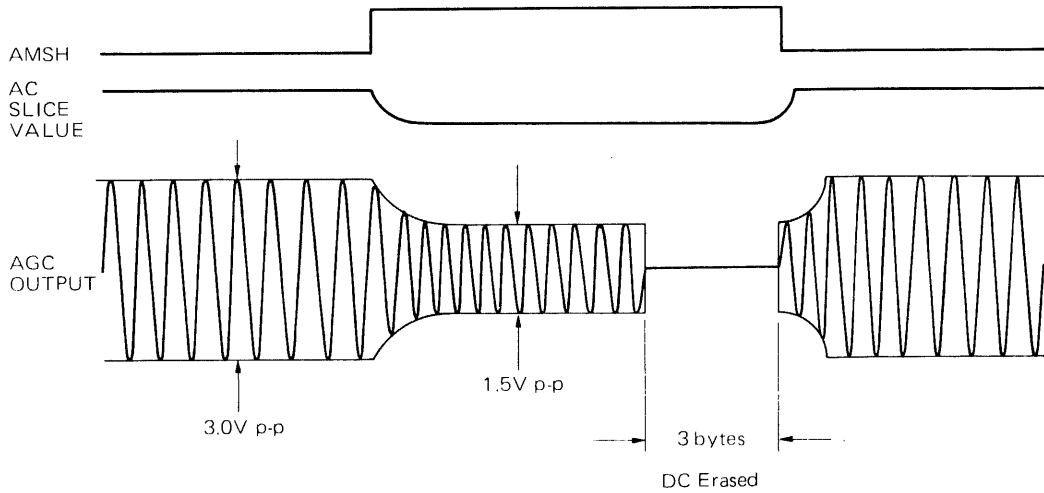

Figure 4-6-45 AM Search on Read Signal
In the variable Soft Sector mode, the Address Mark (AM) which is a DC-erased three-Byte area is used for indicating the beginning of sector. When the control unit issues an AM-Read (Tag 3·Bus 1·Bus 5) command, the AM-Search (AMSH) signal goes true and suppresses the AGC output amplitude to avoid misdetection of an AM caused by external or media noise in the DC-erased area (refer to Figure 4-6-45).